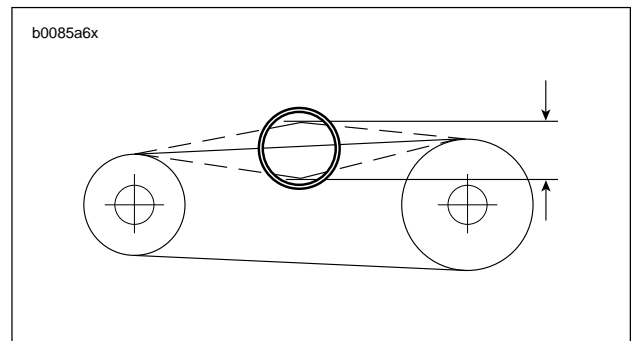

Figure 1-28. Measuring Primary Chain Free Play
2. See Figure 1-28. Check primary chain tension by measuring vertical free play.